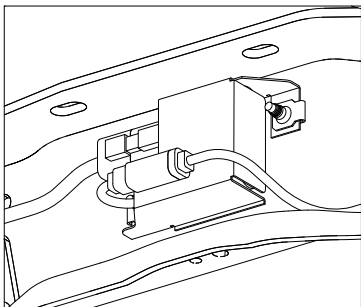
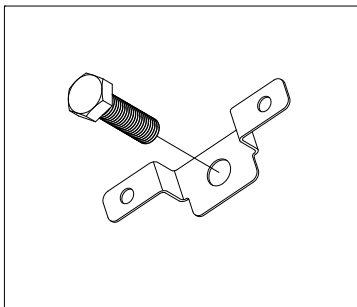
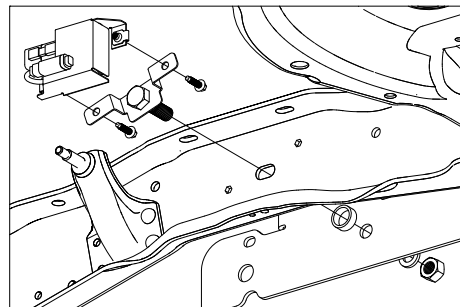
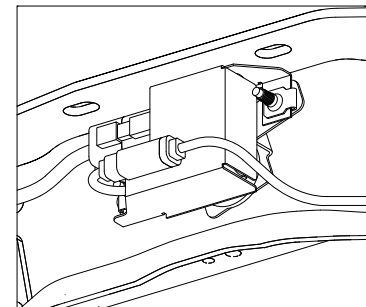

figure 7.4, inside of the passenger side frame.
figure 7.5, supplied bracket and 3/4" bolt.
figure 7.6, inside of the passenger side frame.
Figure 7.7, installed bracket and module
**\*\*NOTICE\*\*** - On certain models of the Diesel Ford Super Duty a sensor control module is located over a hole needed to install the passenger side plate of the B&W hitch. A bracket has been supplied to relocate the module so the side plate can be installed. To begin, locate the module on the inside of the passenger frame rail (see figure 7.4). Once located, remove the two bolts holding the module to the frame. Caution, do not remove heat shielding from wiring harness. Wiring must remain as close to its original location as possible to protect it from the heat of the exhaust system. With the 3/4" bolt through the bracket, (see figure 7.5) attach the module to the bracket with the two factory bolts (see figure 7.6). Insert 3/4" bolt through oval slot in the frame and continue with sideplate installation. See figure 7.7 for relocated module in its final position.